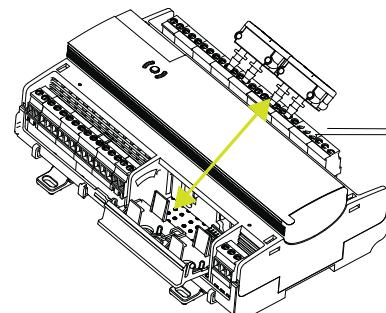

Fig. 7 Replace the Airflow Sensor
- Extend all red mounting clips to the unlock position as shown in figure 7.